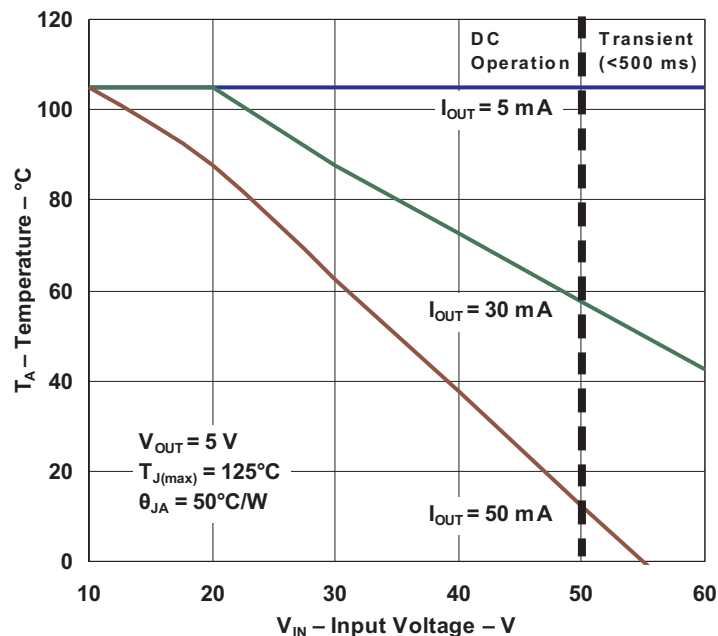

Figure 1. Safe Operating Area
- (1) Stresses beyond those listed under *Absolute Maximum Ratings* may cause permanent damage to the device. These are stress ratings only, and functional operation of the device at these or any other conditions beyond those indicated is not implied. Exposure to absolute-maximum-rated conditions for extended periods may affect device reliability.
- (2) Transient: 500 ms for $V_{IN} > 50\text{ V}$
- (3) The thermal data is based on using JEDEC 51-5. The copper pad is soldered to the thermal land pattern and using 5 by 8 thermal array (vias). Correct attachment procedure must be incorporated.
- (4) The thermal data is based on using JEDEC 51-7. The copper pad is soldered to the thermal land. No thermal vias. Correct attachment procedure must be incorporated.
- (5) The junction temperature must not exceed 125°C. See Figure 1 to determine the maximum ambient operating temperature versus the supply voltage and load current. The safe operating area curves assume a 50°C/W thermal impedance and may need to be adjusted to match actual system thermal performance.